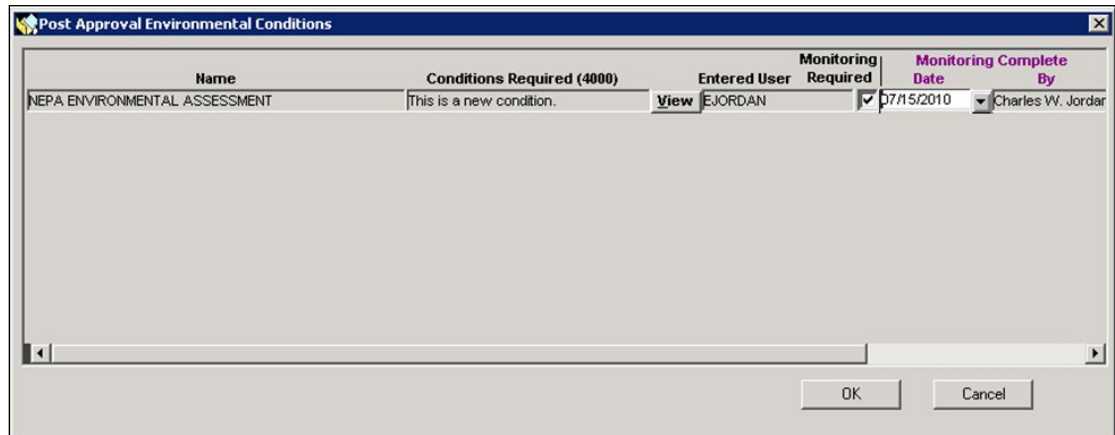

Figure 11-17: Monitoring Complete Data Fields
- b. Enter the Monitoring Complete Date. The system auto-fills your User Name in the Monitoring Complete By field (Figure 11-17).